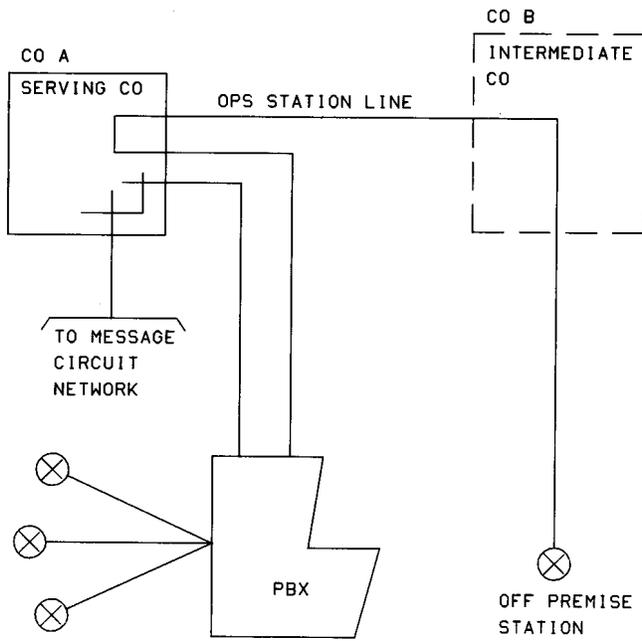

Fig. 3-8—Typical PBX OFF Premises Station Line
**PBX central office (CO) trunks** which connect the PBX to the CO normally serving the PBX location. These trunks appear as station lines at the CO equipment.
**PBX Foreign Exchange (FX) Trunks** which are the same as PBX CO trunks except that they terminate in a remote exchange office rather than the one normally serving the PBX location. (See 3.08 for more information on FX service.)
**PBX off-premises station (OPS) lines** (Fig. 3-8) which give the same services as on-premises station lines except that the station equipment is located remotely from the PBX location.